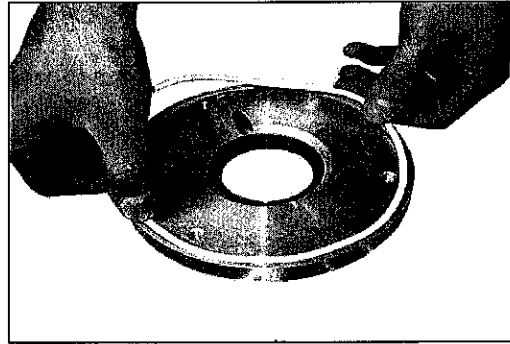

fig. 19
- Clean the surface well and spread a fine strip of silicone on the joint housing, replace the new flexible joint on the outer drum separator. (fig. 19).